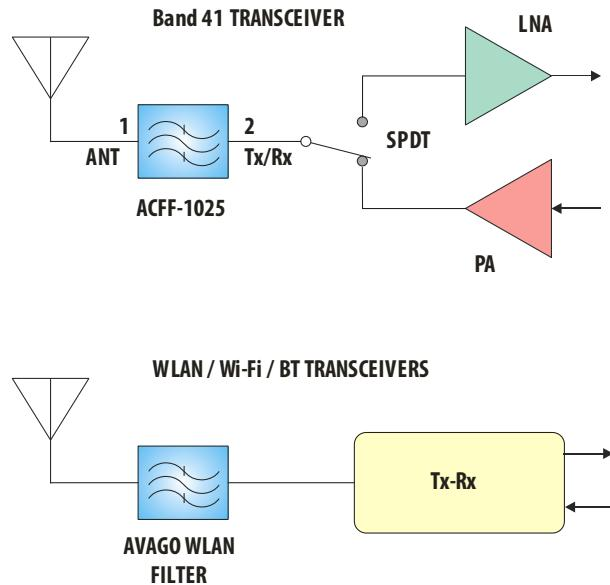

Figure 1. Typical Multi-Radio Application.
The ACFF-1025 is designed to operate in multi-radio system architectures such as illustrated in the simplified diagram in Figure 1. The steep, WLAN/Wi-Fi band-reject characteristic of the ACFF-1025 allows Band 41 transceivers to successfully coexist in close proximity to WLAN, Wi-Fi and/or Bluetooth radios.
**Note:** The ACFF-1025 is not symmetrical. As shown in Figure 1, Port 2 is connected to the system Antenna and Port 1, which is designed for higher power handling, is connected to the Tx/Rx blocks. If either port of the ACFF-1025 is connected to components having a DC voltage present, blocking capacitors should be used.